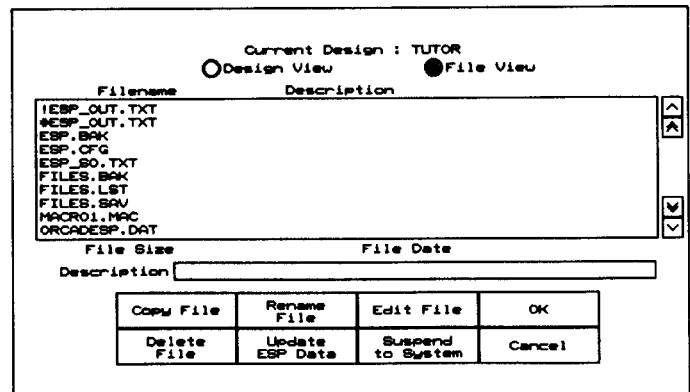

Figure 2-17. *File View* window.
3. Select **File View** near the top of the screen. After a moment, the **File View** window appears (figure 2-17).